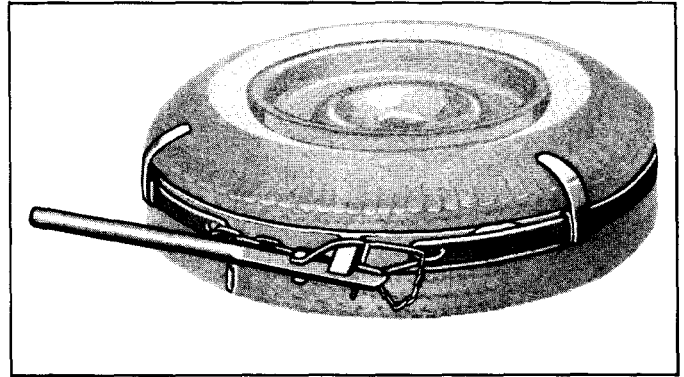

Fig. 1-2—Tubeless Tire Mounting Band—Typical—(60C-2802)
8. Use a mounting band to force the beads against the rim flanges to create the initial seal. See figure 1-2.